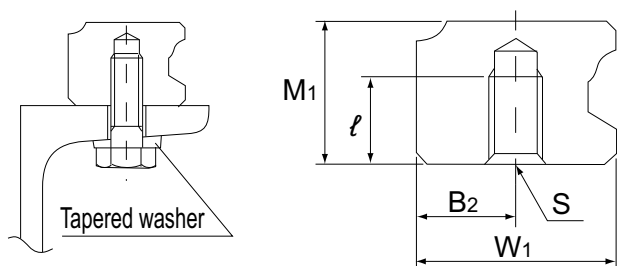

Fig.2
- (1) Determine the bolt length so that a clearance of 2 to 3 mm is secured between the bolt end and the bottom of the tap (effective tap depth).
- (2) As shown in Fig.2, a tapered washer is also available that allows GSR to be mounted on a section steel.
- (3) For model number coding, see A1-276 to A1-277 .